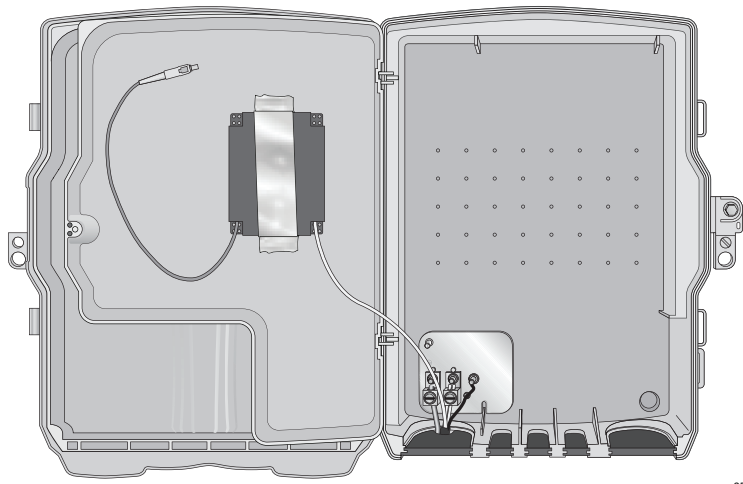

Figure 24. Securing the Metal Splice Tray
12. Temporarily secure the splice tray to the inside of the inner cover with electrical tape until the gateway is installed, as shown in Figure 24.